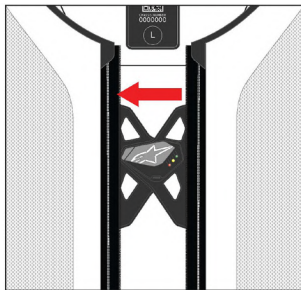

Figure 11: How to switch on the System;
1. Put on the System with the Converter (4) attached to the front.
2. Close the Front Flap (3) taking care to correctly attach the hook-and-loop by lining up the patches, as shown in Figure 11; the System automatically turns on as soon as the Front Flap (3) is attached to the hook-and-loop patch.
3. Once the Front Flap (3) has been correctly closed, check the LED Display (2) to verify that the System has turned on and that it has started correctly (see Section 13 "Display Indications"). In particular, the User must verify that after the System starts-up, there is no System Fault present.
2. System Installation. Remove the inner liner from the protective Outer Garment. If present, first connect the integrated LED Display using the External LED Display Connector (17). Then proceed placing the System inside the Outer Garment, making sure to position all the Velcro attachments correctly. Finally, connect the zippers of the System to the zippers present on the Outer Garment. Proceed by inserting the inner liner, passing it internally to the sleeves, and make sure the Front Flap (3) is exposed to allow the System to turn on once the Outer Garment is on.
3. **Put on the Garment.** Put the Outer Garment (with the Integrated System) on and close the Front Flap (3) taking care to correctly attach the hook-and-loop patches, as shown in Figure 11; the System automatically turns on as soon as the Front Flap (3) is attached to the hook-and-loop patch.
4. **System Verification.** Once the Front Flap (3) has been correctly closed, check the LED Display (2) to verify that the System has turned on and that has started correctly (see Section 13 "Display Indications"). In particular, the User must verify that after the System starts-up, no System Fault is present.